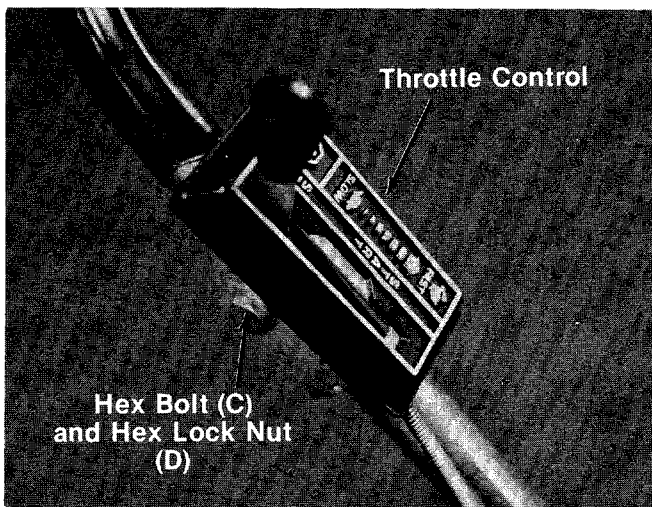

FIGURE 5.
5. Place the throttle control in position on the **left** hand side of upper handle. Secure with hex bolt (C) and hex lock nut (D) provided. See figure 5.